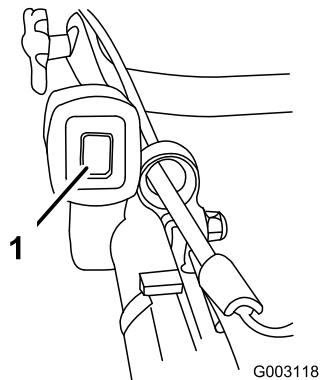

Figure 20
1. Push the ignition toggle switch to the On (I) position (Figure 20).